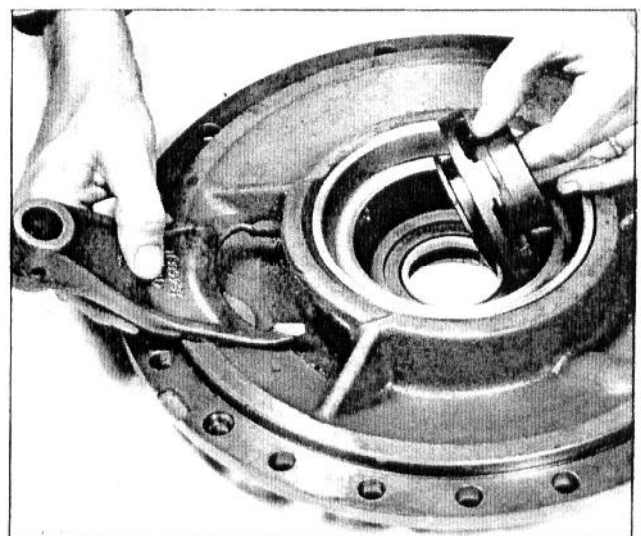

Fig. 19 - Shift Fork and Diff. Lock Coupler Removal or Installation
- c. Lift the differential lock coupler and operating fork from the carrier plate, as shown in Fig. 19.